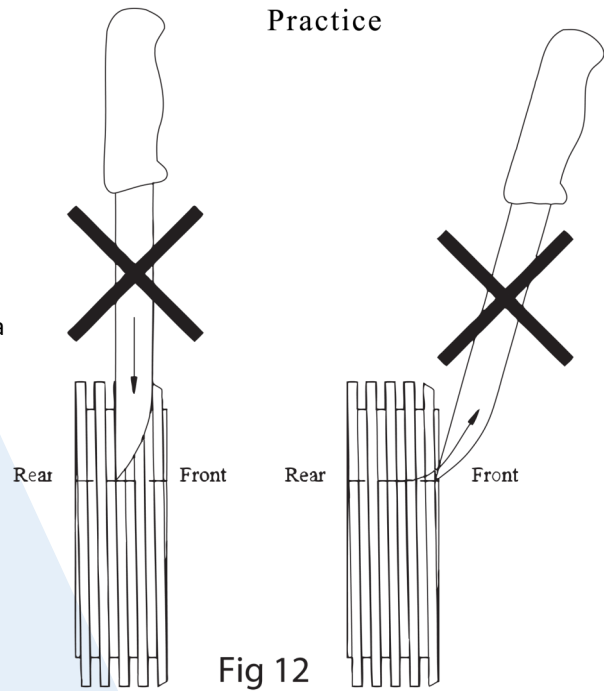

Fig 12
4. Avoid starting to sharpen by placing the blade point first down into the wheels or withdrawing the blade point over the front edge as both these will cause the blade to receive a kick as shown in figure 12.